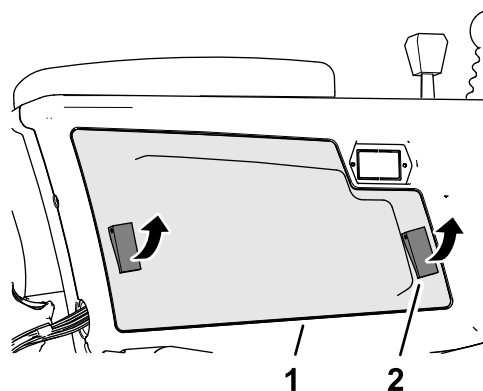

Figure 129
2. Open the 2 latches that secure control-arm cove to the control arm, and remove the cover (Figure 129).